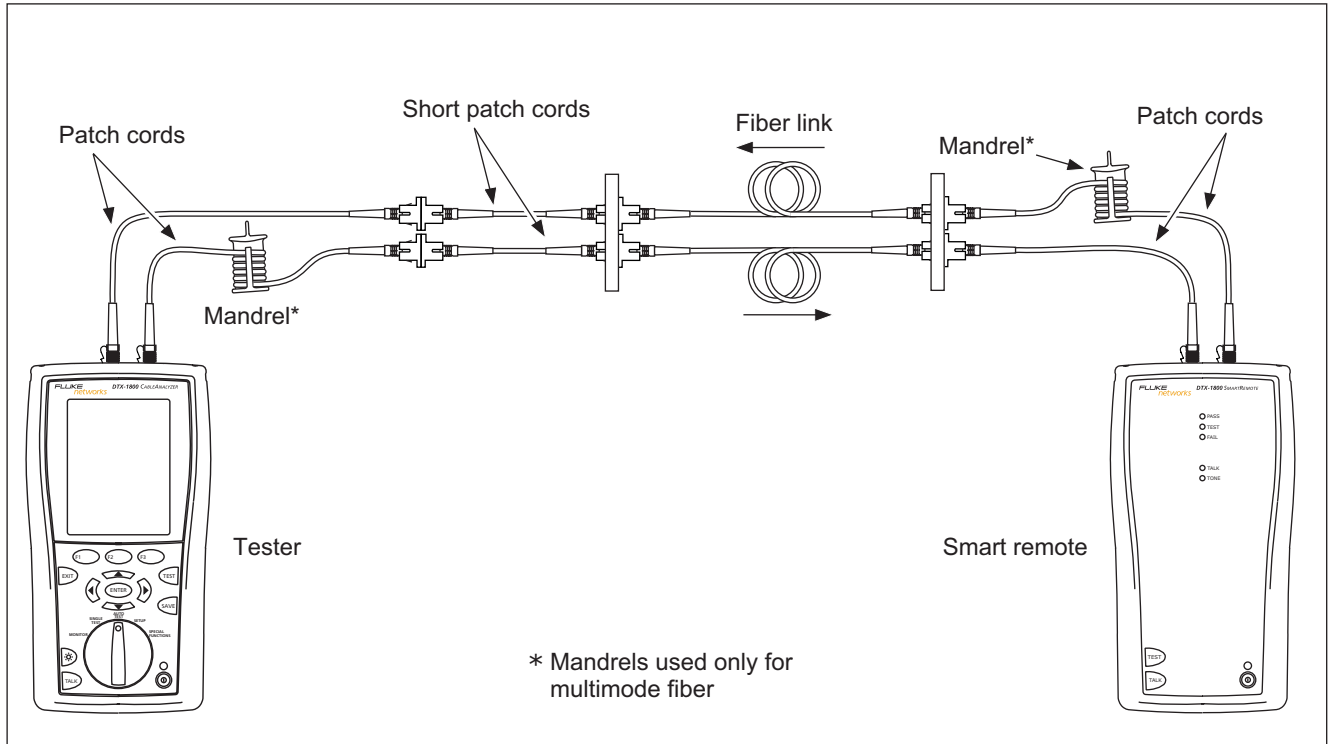

Figure 5-8. Smart Remote Mode Test Connections (Modified Method B)
- 4 Connect the tester to the cabling. Figure 5-8 shows test connections for Method B.